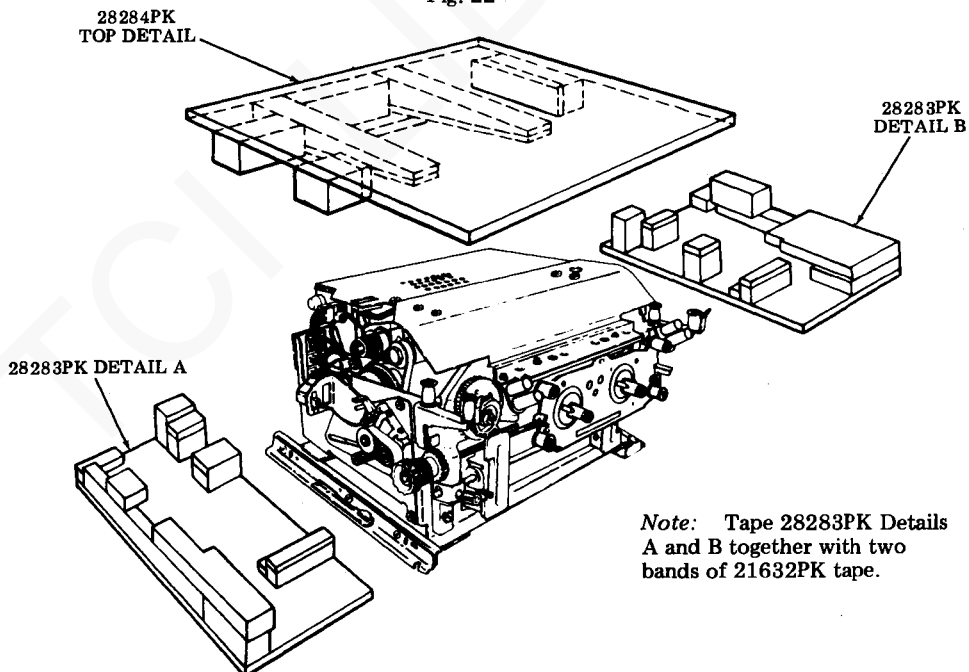

Fig. 23
- Step 10. Place a 28284PK wood detail in carton on top of printer. See Fig. 23.